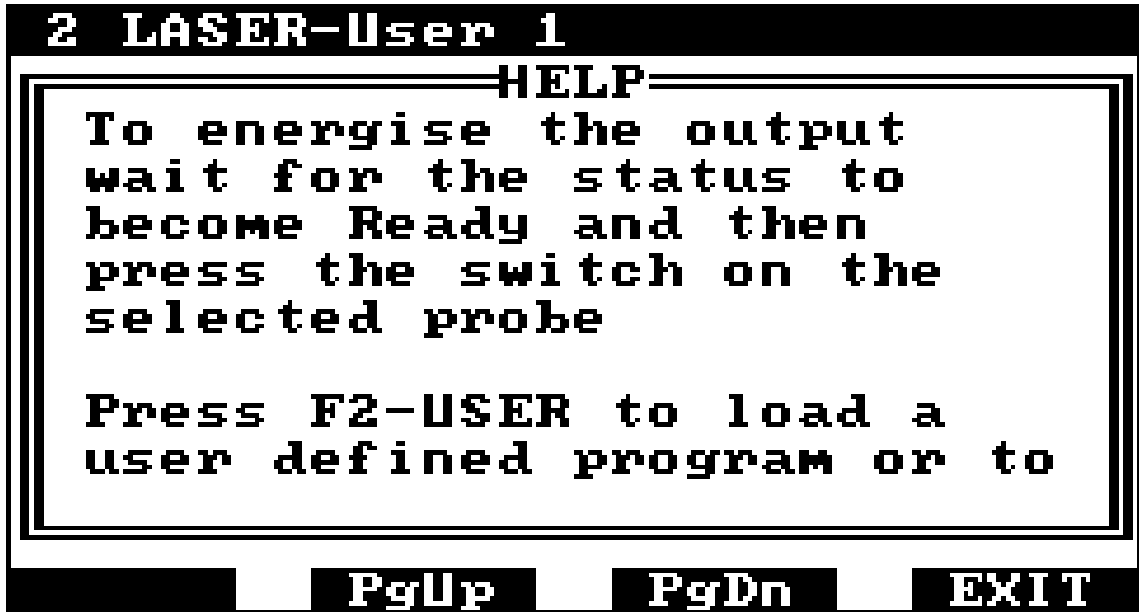

Figure 30 - Help Text Display
16. **F1 - HELP:** When the label for function key F1 is HELP, pressing F1 will suspend the current activity and the display will show help text relevant to the current display or activity (figure 30). If the help text is more than can be displayed at one time, it may be scrolled up or down, one line at a time using the up and down arrow keys, or one screen full at a time by pressing F2 - PgUp or F3 - PgDn. To exit from HELP, press F4.
Programs shown as dashes, for example, programs 5 to 8 in figure 30, have not been used and are blank.